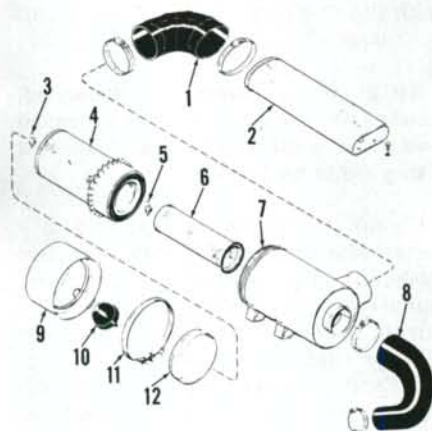

Fig. 77—Exploded view of typical air filter assembly used on Model 2090 and 2094 tractors.
89. All models are equipped with a dry type air cleaner with a safety filter element (6—Fig. 77 and 78) which should be renewed each 1000 hours of operation. DO NOT attempt to clean safety element.
Large filter element (4—Figs. 77 and 78) can be cleaned by directing compressed air into inside of element. Air pressure must not exceed 100 psi (690 kPa). An element cleaning solution, Case part No. A40910 is available. Renew primary element after four cleanings.